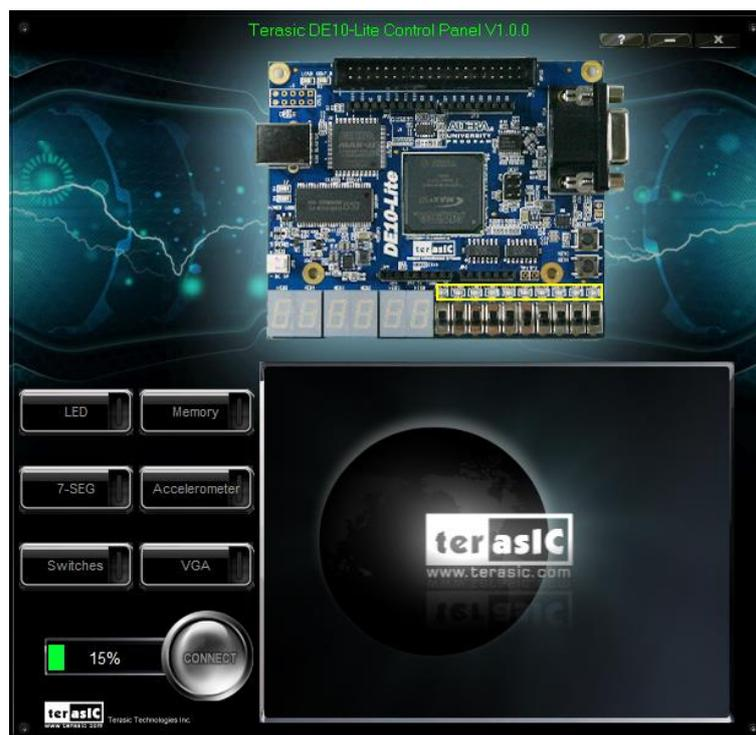

Figure 2-1 The DE10-Lite Control Panel
4. Start the executable *DE10_Lite_ControlPanel.exe* on the host computer. The Control Panel user interface shown in **Figure 2-1** will appear.